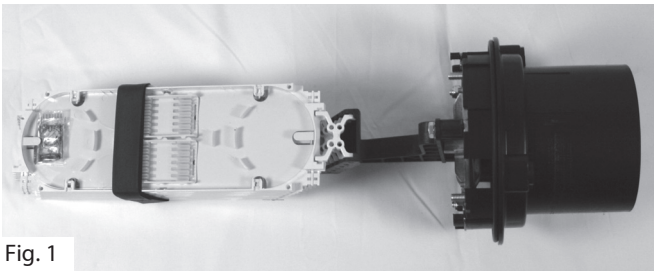

Fig. 1
1. Remove the black plastic base to reveal the metal bracket. (Figure 1)